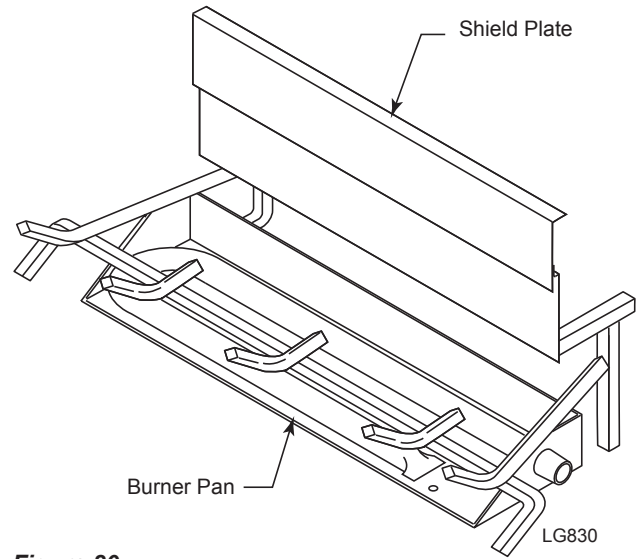

**Figure 79 -
9. Place front end of Top Left Log #8 on Log #1a. Let back end of Log #8 rest on Log #7. *Figure 79*